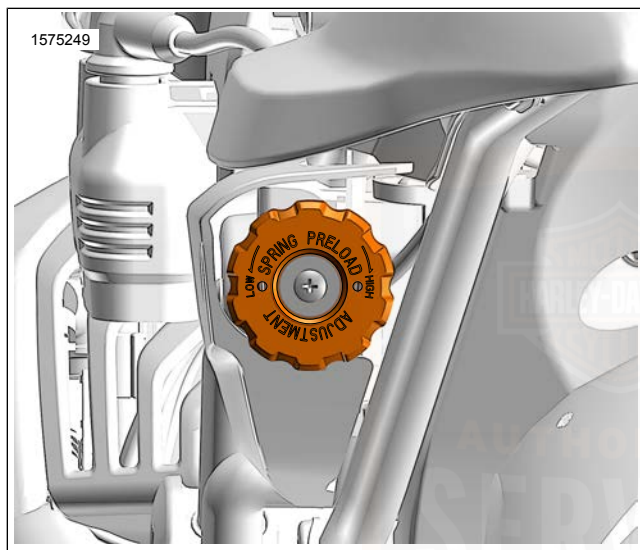

Figure 21. Preload Adjuster
1. See Figure 21. Rotate the preload adjuster knob clockwise in the HIGH direction to increase preload setting, or counterclockwise to decrease preload setting until desired setting is reached.
3. See Figure 21. Adjust preload adjuster knob to the desired number of clicks.